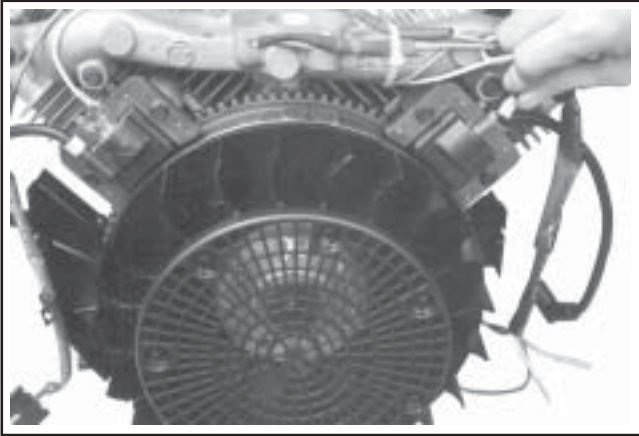

Figure 11-54. Connecting Kill Leads on Standard Ignition Modules.
On engines are not equipped with SMART-SPARK™, the modules are installed with the spark plug lead wire from module always away from the cylinder. On #1 cylinder, the single kill tab should be towards you. See Figure 11-54. On #2 cylinder, the single kill tab should be away from you (in).
3. Connect the kill lead to the tab terminal on standard ignition modules. See Figure 11-54.